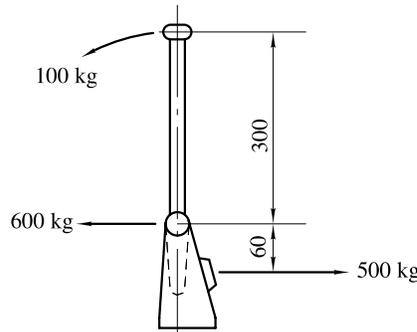

Figure 9-59
*Example.* Let's suppose that the control stick has the dimensions shown in the Figure 9-59.